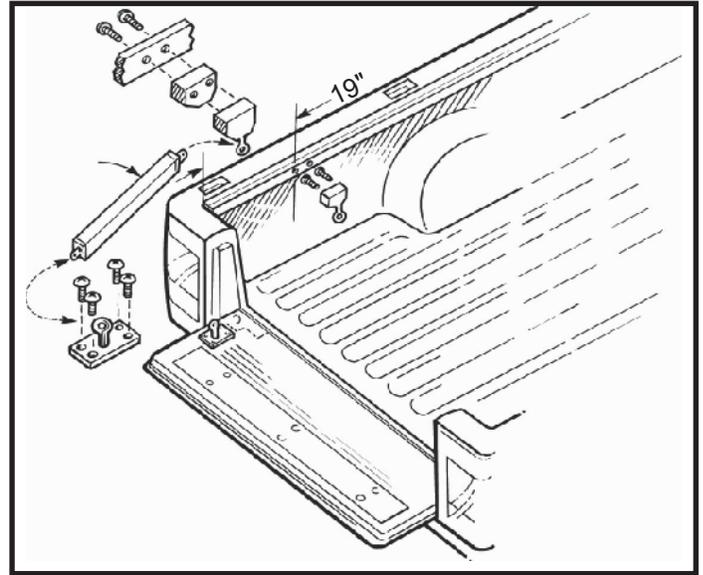

Fig.1
2. The next step requires you to locate the mounting position for the upper actuator bracket. The position of the bracket will depend on the type of truck you have (fleet-side vs. step-side). On fleet-side trucks you will mount the bracket onto the upper bed rail. With the tailgate fully closed, measure 21" from the face of the tailgate along the rail. This will be the point where you will drill the first mounting hole for the upper bracket. (See fig.1) **NOTE! THIS IS A CRITICAL MEASUREMENT, DON'T RUSH, TAKE YOUR TIME AND MEASURE TWICE.** You may want to consider making a backing plate to mount behind the rail for better support. We suggest that you use the spacer block as a template for drilling your holes. Set the bracket on the bed rail as low as possible and run a 5/16" drill bit through the spacer block and drill through the rail. Now use the spacer block as a template and drill the second hole. On step-side trucks, measure the same distance (21"), however you should place the bracket about 3" below the top of the rail bed in order to hide the screws inside the fender well.